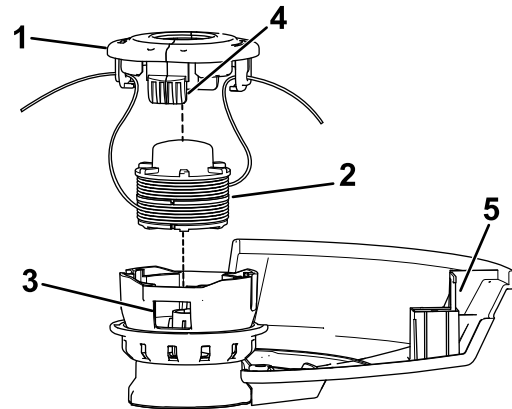

Figure 16
2. Push in the tab on the side of the spool retainer (Figure 16).